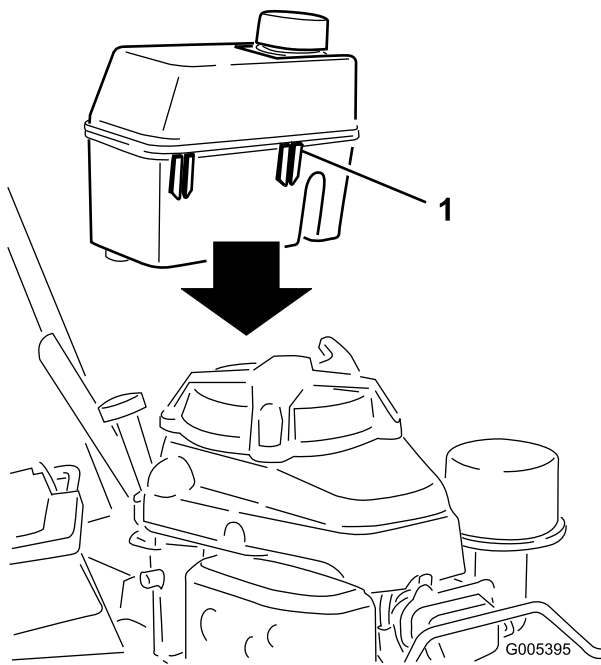

Figure 6
- Slide the plastic clips on the front of the fuel tank onto the fuel tank mount (Figure 6).